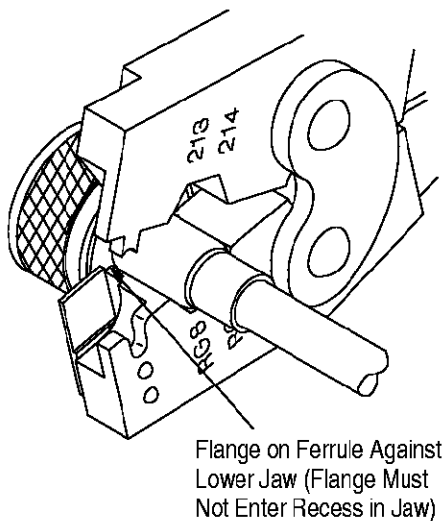

Figure 6
7. Place assembly in tool as shown in Figure 6. The cable should extend from the side of the tool with cable identification.